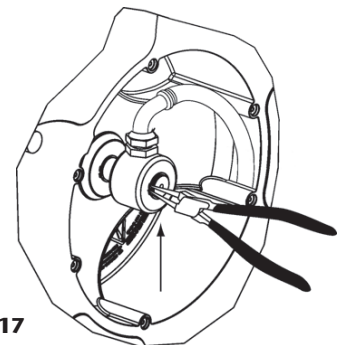

Fig. 17
3. Remove the circlip and pull the swivel. Be careful not to damage the swivel O-Ring (fig. 17).